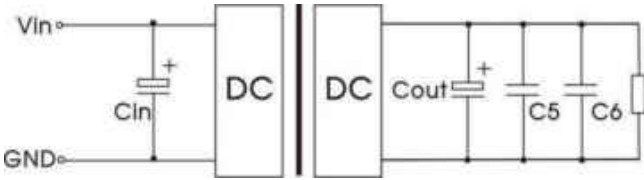

Fig. 2
Note: ①By measuring method is used for Ripple and Noise test, please refer to Fig. 2. for recommended circuit.
All the DC-DC converters of this series are tested before delivery using the recommended circuit shown in Fig.2. Input and/or output ripple can be further reduced by appropriately increasing the input & output capacitor values C_{in} and C_{out} and/or by selecting capacitors with a low ESR (equivalent series resistance). Also make sure that the capacitance is not exceeding the specified max. capacitive load value of the product.